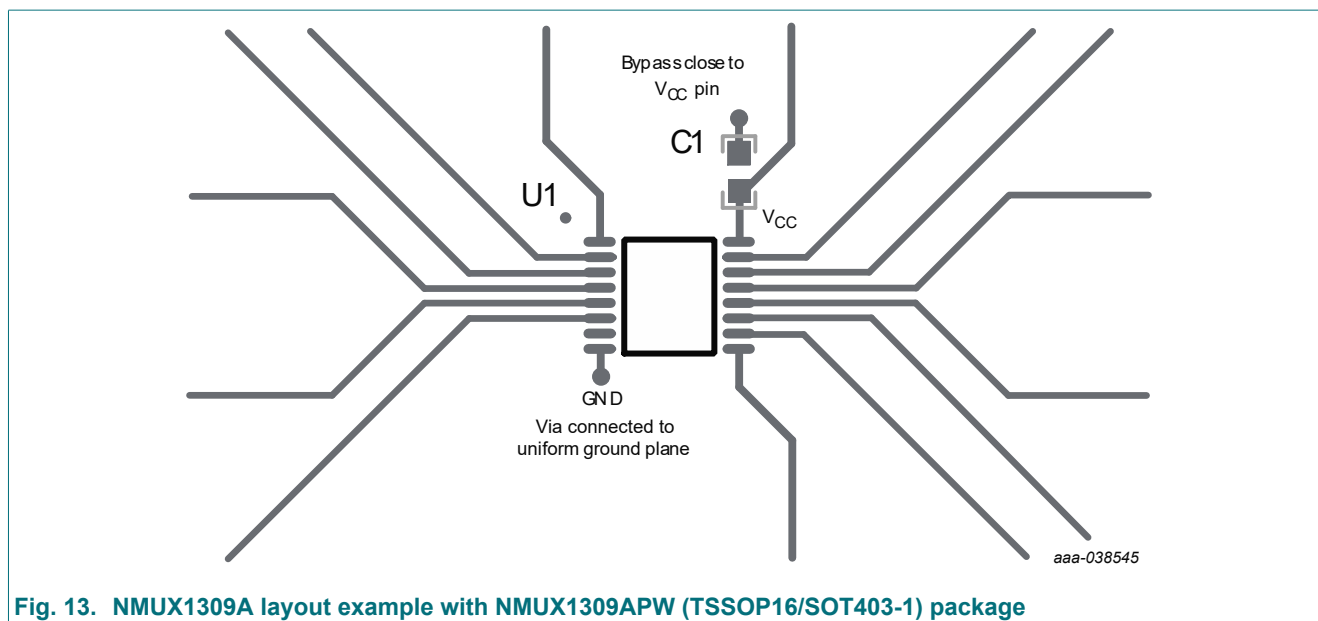

Fig. 13. NMUX1309A layout example with NMUX1309APW (TSSOP16/SOT403-1) package
The image provided below (Fig. 13) offers a glimpse into an example PCB layout with the (PW) package. Bypass capacitors should be positioned near the V_{CC} pin, and the GND pin should be connected to external/internal GND planes. A uniform GND plane helps in reducing noise and minimizing loop inductance, thereby ensuring optimal performance.